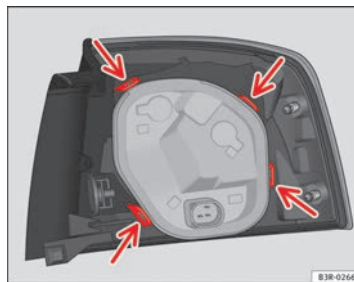

Fig. 229 Securing the bulb holder in the tail light unit
- Check that all four retaining tabs ⇒ Fig. 229 -arrows- have engaged.